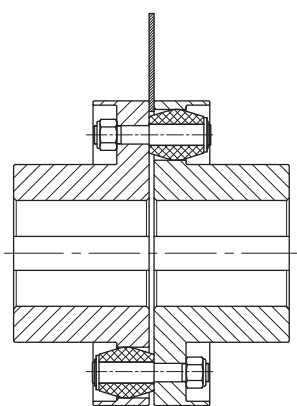

Fig. 1
- 4) When the half-couplings are cold, bring them together to get the value of “s” as indicated in the table. In order to check this value, use a feeler gauge and verify that the share is identical in 4 points placed at 90 ° to each other (Fig 1).